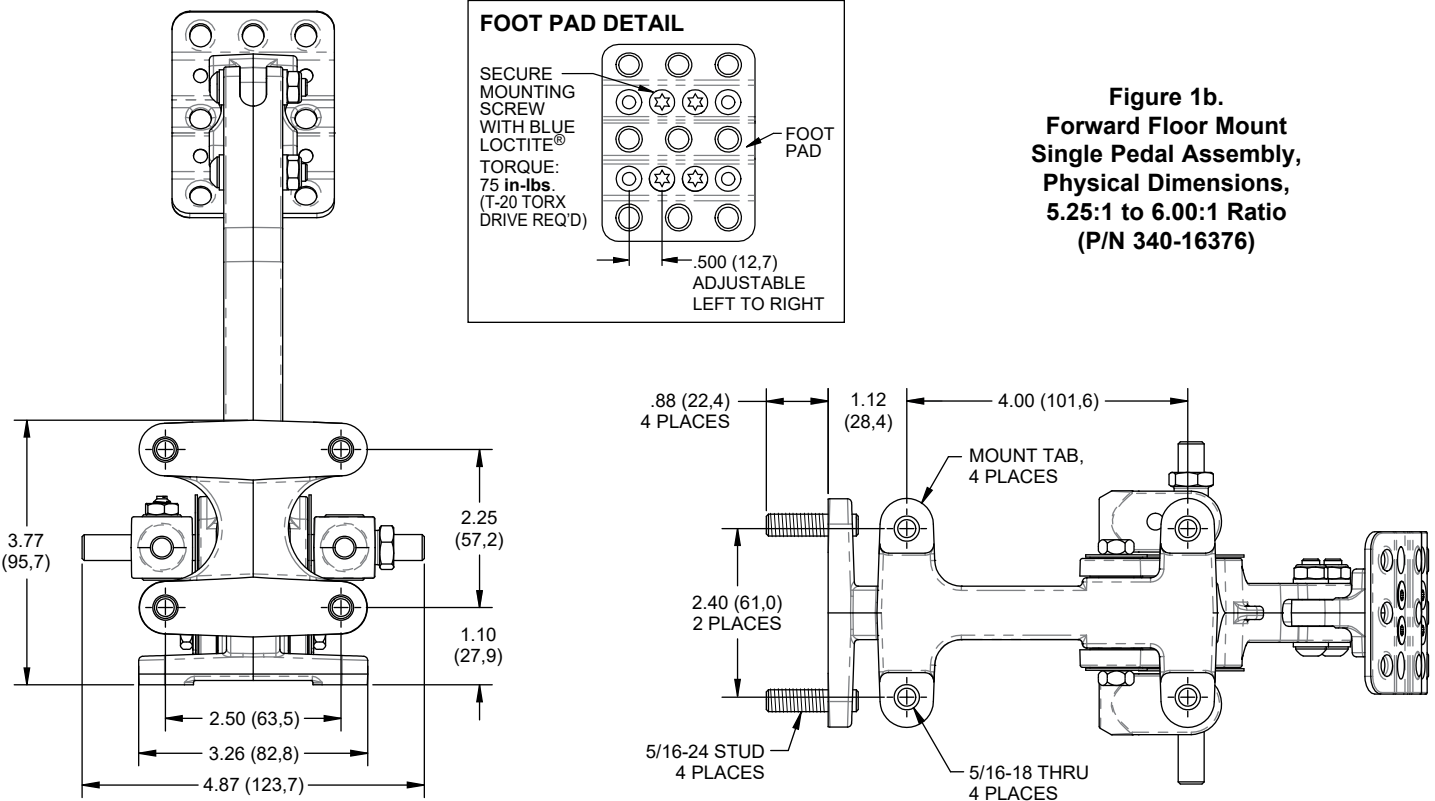
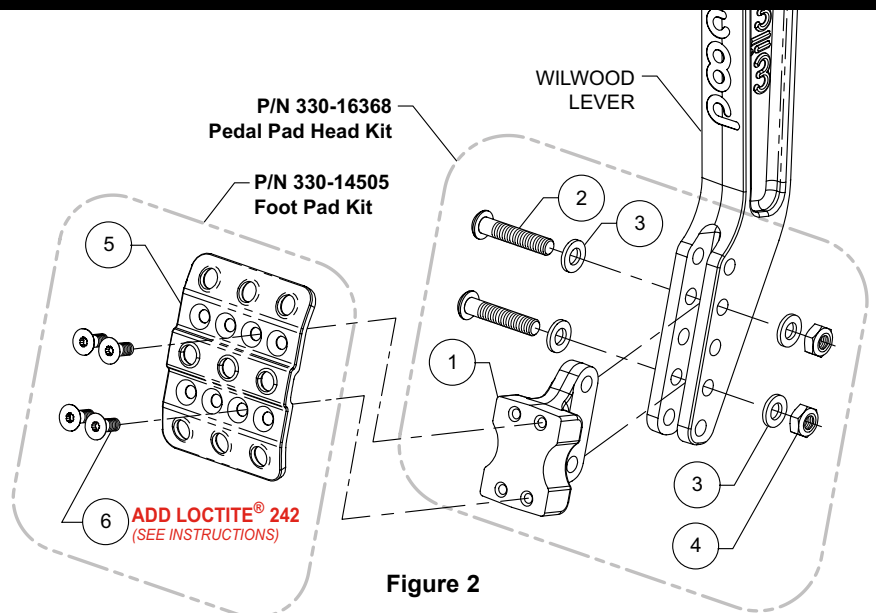

Figure 1b.
Figure 2
•Install the pedal pad head (1) into the “fork” of the pedal arm in the desired location as shown in Figure 2. Secure in place using bolts (2), washers (3), and locknuts (4).
•Torque locknuts (4) to 120 in-lbs.
•Orient foot pad (5) as shown in Figure 2. Pad may be installed in three different positions as shown in Foot Pad Detail of Figure 1b. Secure to pedal head (1) using four T-20 drive Torx screws (6). Apply blue *Loctite*® 242 to the threads and torque screws to 75 in-lbs.